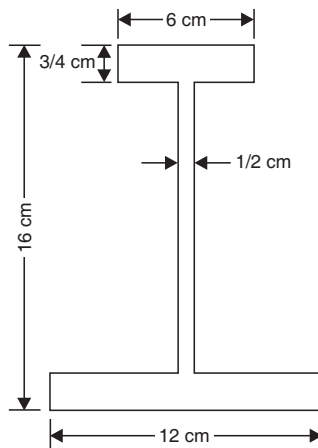

Fig. 4.46
4. Fig. 4.46 shows an unsymmetrical I section. The upper flange is 6 cm × 3/4 cm, the lower flange is 12 cm × 1 cm, the overall depth is 16 cm and the thickness of the metal at the web is 1/2 cm. Find the distance of c.g. from the bottom of the lower flange. [Ans. 5.68 cm]